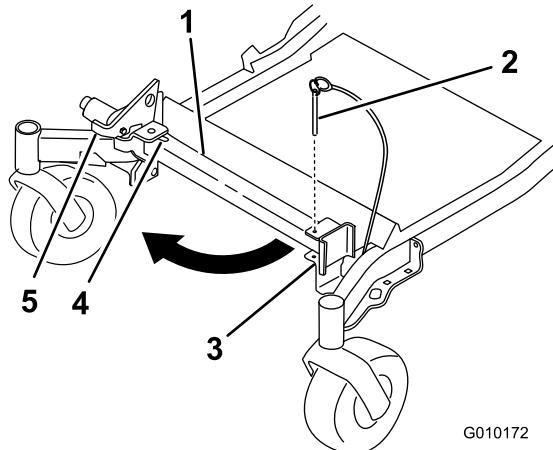
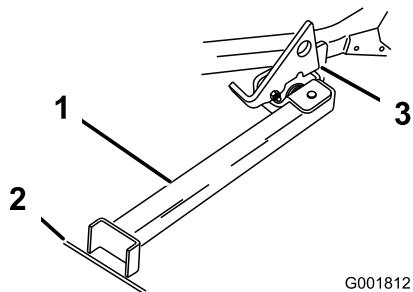

Figure 8
Figure 9
2. Remove the bracket pin (Figure 8).
3. Raise the latch. Swing the stand foot out front and slide stand toward machine, into the bottom of slot (Figure 8 and Figure 9).
6. Set the foot of stand on the ground and rest the latch on the pivot tab (Figure 9).
Note: For best results, place the foot of stand into seams in sidewalks or into the turf (Figure 9).
8. Drive onto the stand. Stop when the latch drops over the tab into the locked position (Figure 9). Once onto the stand, engage the parking brake and turn off the engine.
7. Return the stand to its rest position (Figure 8).